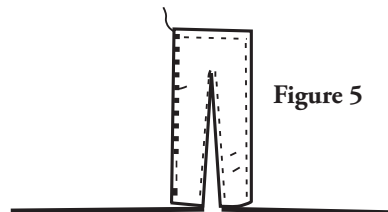

Figure 5
8. Place the web between the facing and sleeve side at the top and fuse (Figure 5).